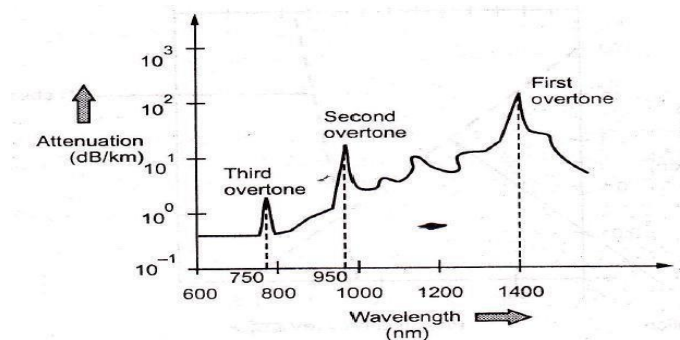

Fig. 2.2.2 Absorption spectra for OH group
- Fig. 2.2.2 shows absorption spectrum for OH group in silica. Between these absorption peaks there are regions of low attenuation. □